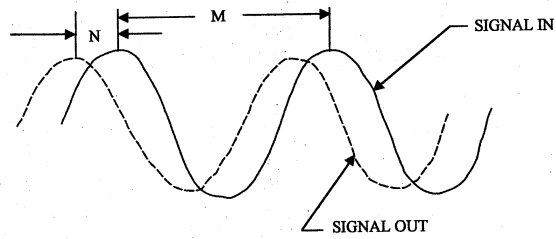

FIGURE 4 PHASE CHANGE
- iii. Phase lag of the filter output signal with respect to the filter input signal, i.e. record “M” and “N” (see Fig.4).
(In Fig.4, there is a phase lag ϕ is negative)